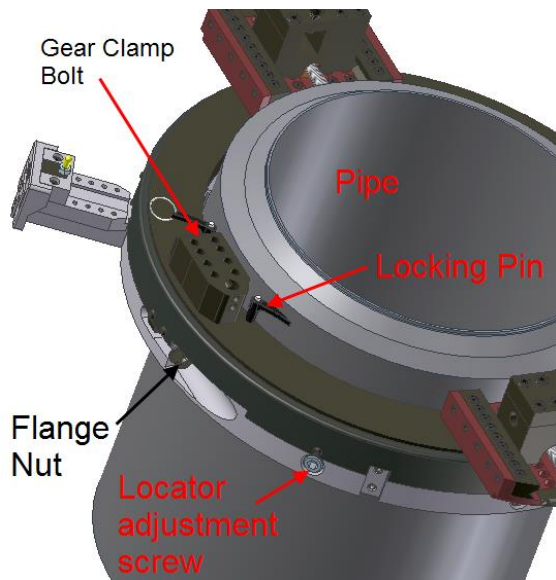

Figure 8
1. Install the 2 halves of the Clamshell around the pipe and tighten the housing bolts and the clamp bolts on the gear (see Fig. 8).